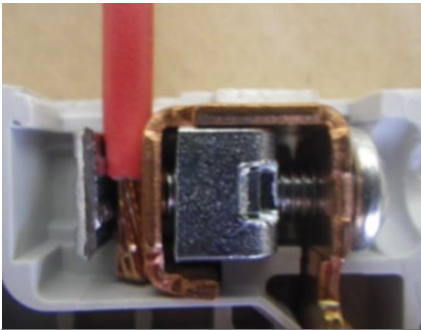

Fig 4. Termination made incorrectly as a result of insulation being trapped in the terminal clamp
- Strip insulation sufficient to allow conductor(s) to enter terminal fully and ensure that insulation is not trapped in the termination (*see Fig 4*) – many manufacturers give a recommended strip length.